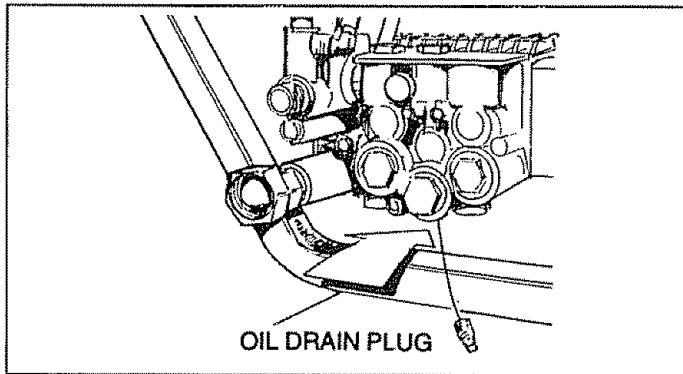

FIG. 22
- Remove the Oil Drain Plug on bottom of pump and drain oil into the container (Fig. 22).